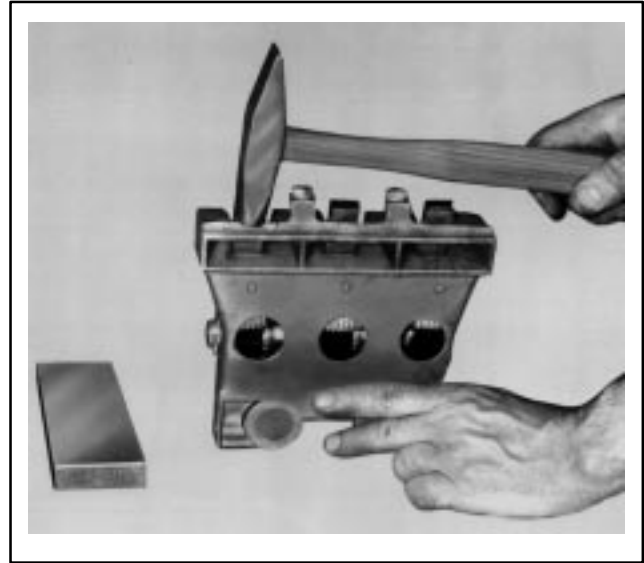

FIG. 3. RESIZING BRUSHHOLDER CARBONWAYS. E-11281.
1. Remove the brushholder. Position it as shown in Fig. 3 and tap the metal ridge with a hammer.